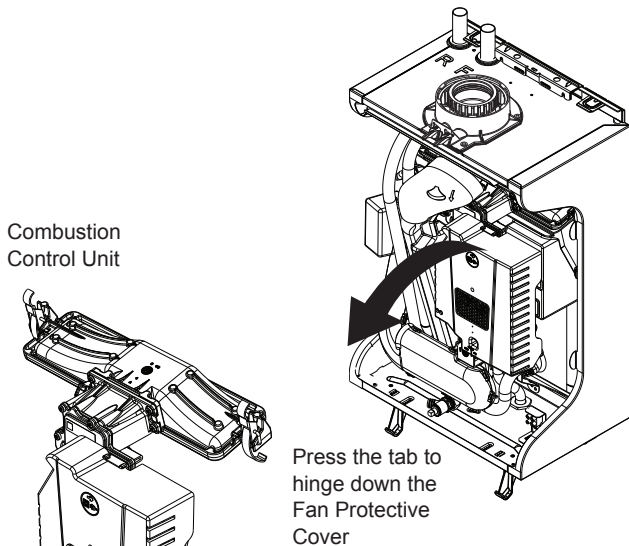

Fig. 47
### 10.3.10 Combustion Control Unit (Figs. 47 to 50)
2. Disconnect the cable from the bottom of the PCB, disengage the fan protective cover securing tab and lower the cover (Figs. 47 & 48).